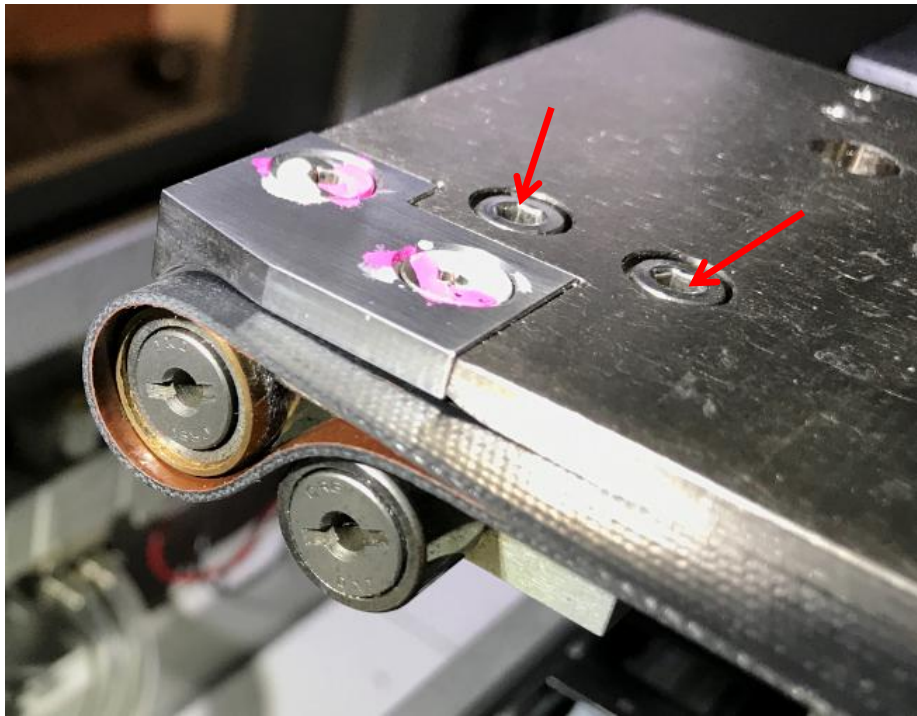

Figure 17 End Pulley Assembly
- d) Slightly loosen End Pulley assembly as below Figure 17